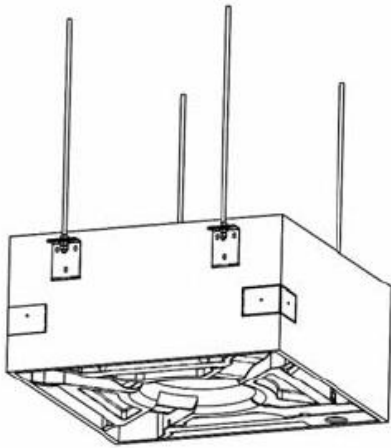
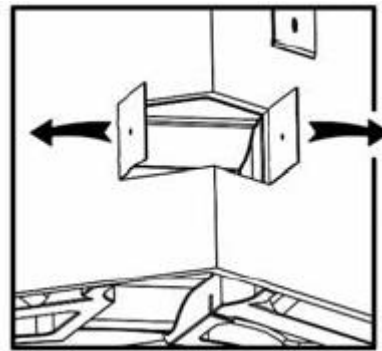

Figure 10
Figure 11
3. Open the mounting plate (Figure 10 and Figure 11)